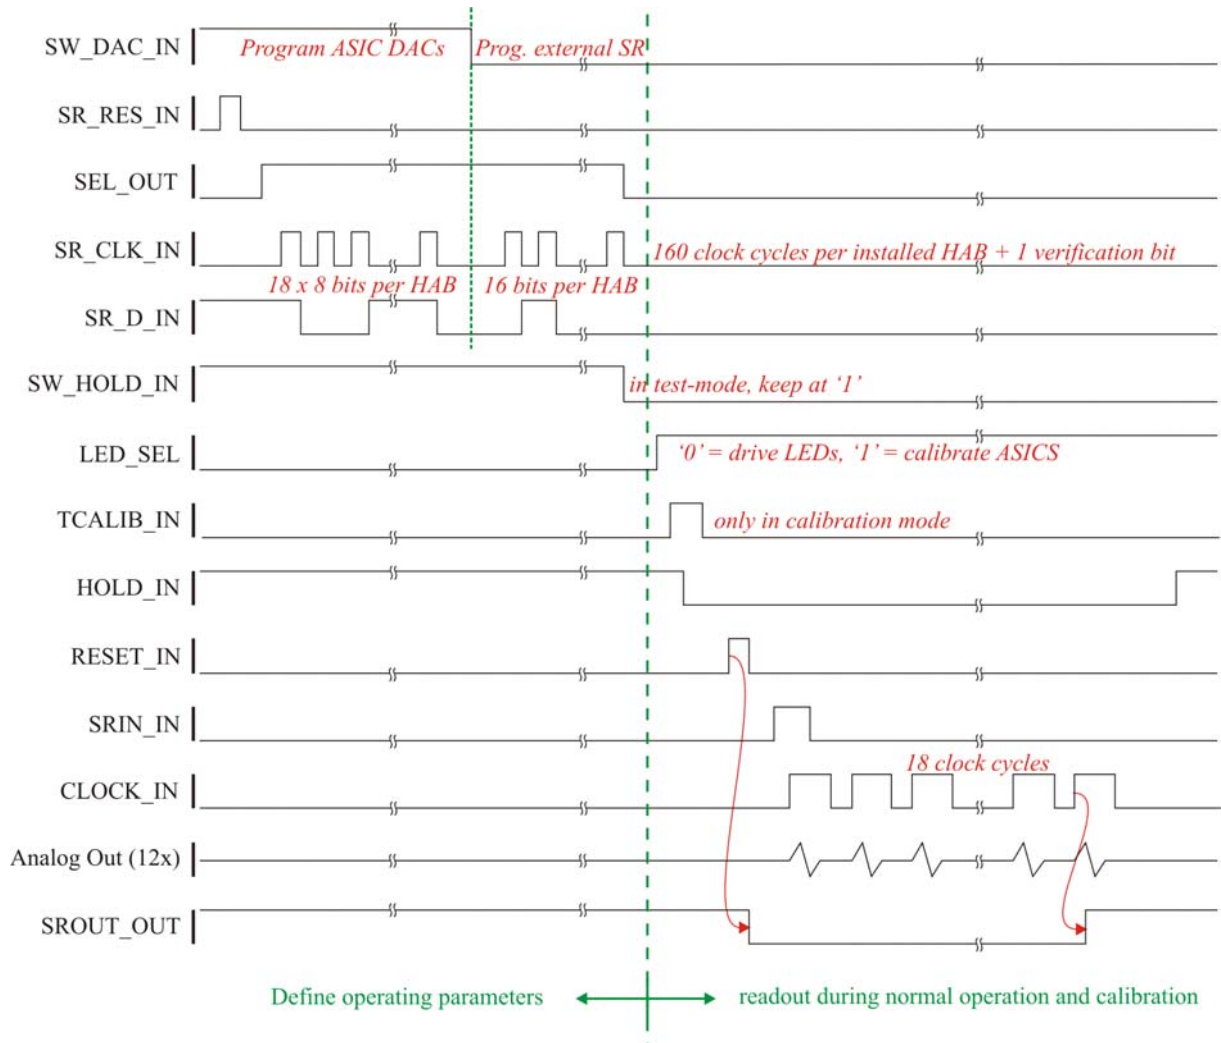

Fig. 2 : Communication of the HBABs with the data acquisition when defining the operating parameters (left), and during normal operation (right).
The complete communication of the HBAB with the DAQ is accomplished via the board’s SCSI connector. The respective pin and signal definition is shown in Table A1 for the left and right populated versions. The setting of operating parameters (e.g. ASIC gain-, DAC-, filter-settings) is realized by a shift register (SR) on each HAB (c.f. Fig. C2). The SRs of all HABs are connected in series, that means the SR output of HAB n is connected to the SR input of HAB $(n+1)$. The SR output of the last HAB is provided back to the DAQ for a verification of the loading procedure. The SR length is 160 bits (stages) per installed HAB, so 960 bits in total for each HBAB. Additionally to these 960 bits, a logical ‘1’ is sent as first bit of this sequence for verification purposes. The SRs of left- and right-populated boards are programmed separately. The communication of the HBABs with the data acquisition is shown in Fig. 2.
In the new version of the HAB, the parameter SR is divided into two parts that have to be programmed one after the other (cf. left part of Fig. 2). At first, the ASIC internal DACs have to be programmed. During this first step, the SW_DAC_IN has to be set to '1' in order to connect the ASIC's DAC SR to the CRC boards. Afterwards the ASIC external SR has to be programmed by switching the SW_DAC_IN to '0' and sending the 16 configuration bits per HAB. In both cases, the SRs of all HABs on a base board HBAB are connected in series. By this, the SR length is 864 bits (18x8 bits times 6 HABs) when SW_DAC_IN is '1' and 96 bits (16 bits times 6 HABs) when SW_DAC_IN is '0'. When the SW_DAC_IN is switched from '1' to '0', the SR_CLK_IN must be stable at '0' (cf. Fig. 2, dotted green line).